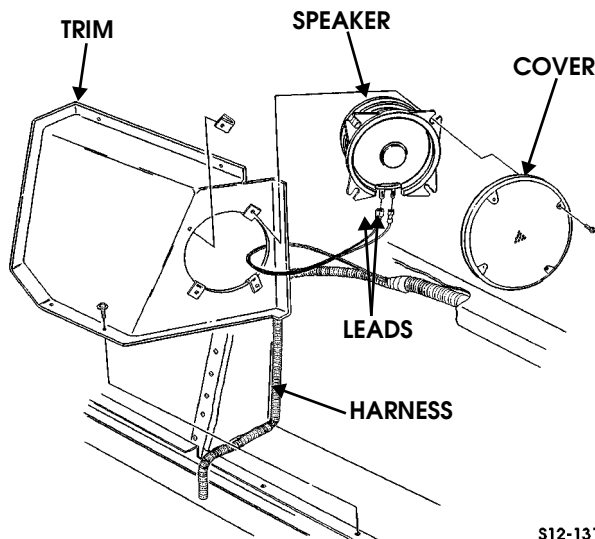

Figure 12-114: Rear Speaker Mounting
6. Remove four screws, clips, cover, and right rear speaker from trim (Figure 12-114).
4. Connect two leads to right rear speaker (Figure 12-114).